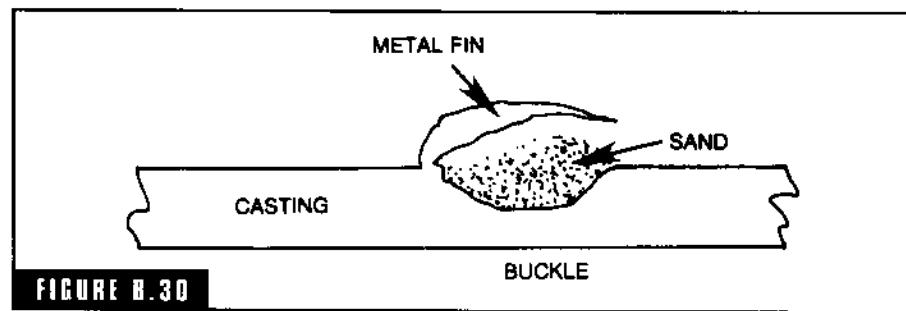

FIGURE B.30
**buckle** An expansion scab, an indentation on the face of the casting caused by the sand being rammed too hard or not containing sufficient combustible material such as wood flour or sea coal (Fig. B-30). The heat from the metal causes the sand to expand and it cannot do so without buckling. It is a very common defect in full-mold investment casting when insufficient gating is used and the mold fills too slowly, subjecting the mold walls to the heat for too long a period of time, causing excessive expansion and spalling.